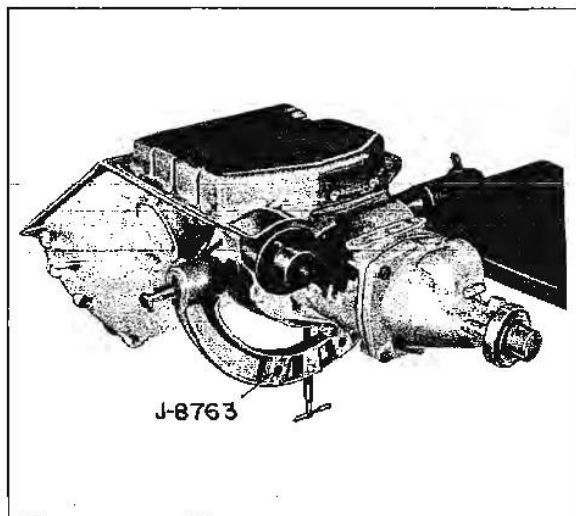

Fig. 7B-52 Transmission Mounted in Holding Fixture
1. Mount transmission in holding fixture J-8763 (Fig. 7B-52).